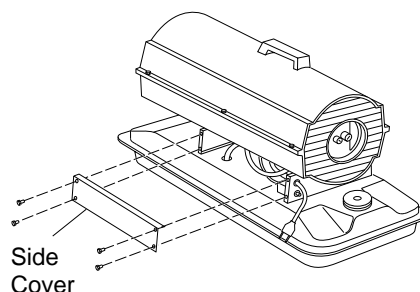

Figure 29 - Removing Cover
1. Using the 5/16" nut driver or socket wrench, remove the four side cover screws (see Figure 29).